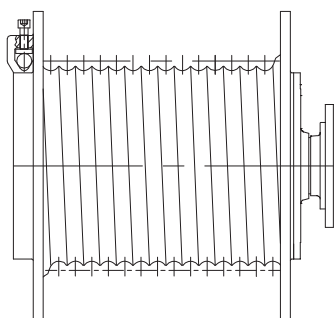
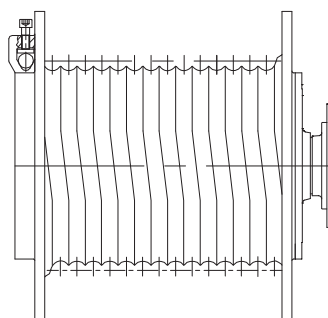

图1 Figure 1
图2 Figure 2
- 1) 标准沟槽卷筒 (图1) 和特殊沟槽卷筒 (图2)。
- 2) 沟槽方向分左旋和右旋, 默认为右旋 (图1)。
- 1) Drum with normal grooves (figure 1) and with special grooves (figure 2).
- 2) Rope groove has right hand lead and left hand. The default lead is right hand (figure 1).